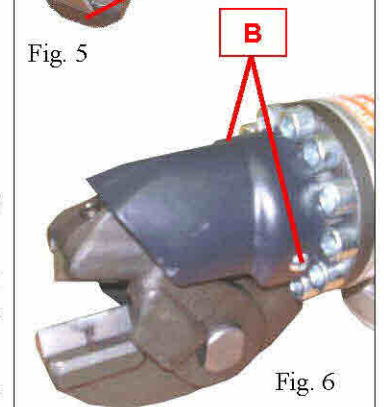

Fig. 6
1. Loosen the two lock screws (B) in fig. 6 and remove the protective sleeve;
- Loosen the two lock screws (B) in fig. 6 and remove the protective sleeve.